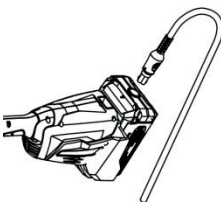

Fig. 19
3. Connect and disconnect the battery with the tool (Fig 19).